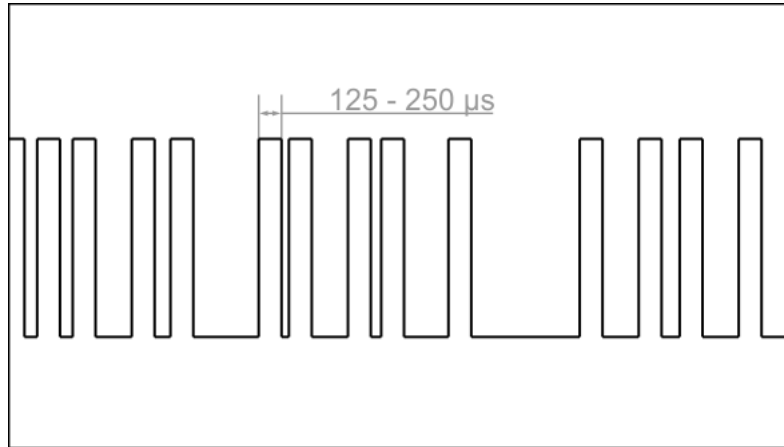

FIGURE 5: ONESHOT 125
Figure 5 shows a OneShot125 signal. OneShot125 is a modification of OneShot designed to improve system stability and responsiveness by reducing the delay between the flight controller and the ESC. OneShot125 scales down the OneShot signal by a factor of eight (8), reducing the endpoints to 125 μ s (0% throttle) and 250 μ s (100% throttle). Like OneShot, the signal low-time and